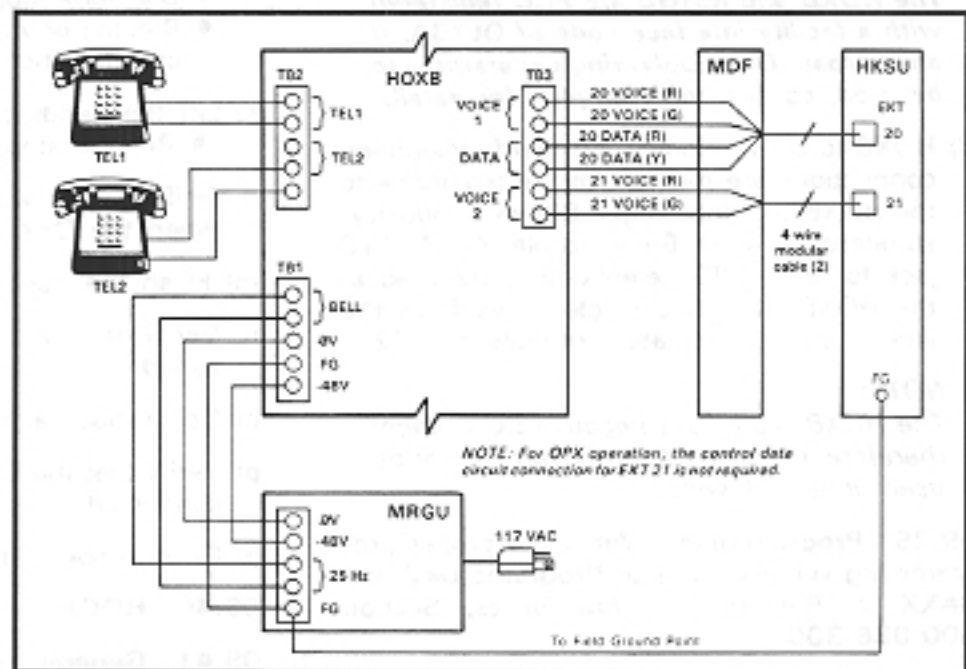

FIGURE 31—HOXB WIRING
09.34 Cabling: Refer to Figure 31, three
- b) Connect the -48 VDC and 0 V battery terminals on both units, observing the correct polarity (see Figure 31).